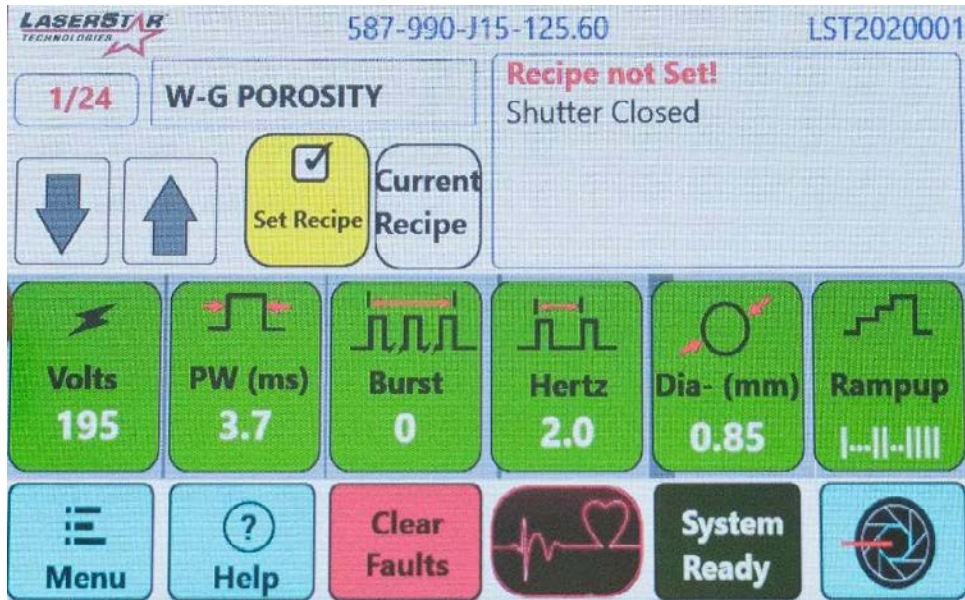

Figure 11
The display layout is shown in **Figure 11** below. The first row shows recipe location, description of the recipe and messages; the second row displays operational / mode choices, Arrow Keys, Set Recipe, and current Recipe. The third row Green buttons display weld parameters-Voltage (V), Pulse Length (mS); Pulse Rate (Hz), Burst Mode or Pulse Suppression (optional / model specific); Beam Diameter; and Shape. The fourth row displays Laser Shutter status, System Ready, heartbeat indicator, Clear faults, help and Menu. **(Note: When the heartbeat button indicator is beating, the welder is ready to weld. The Safety Shutter button is used to open and close the safety shutter and displays the status.)**